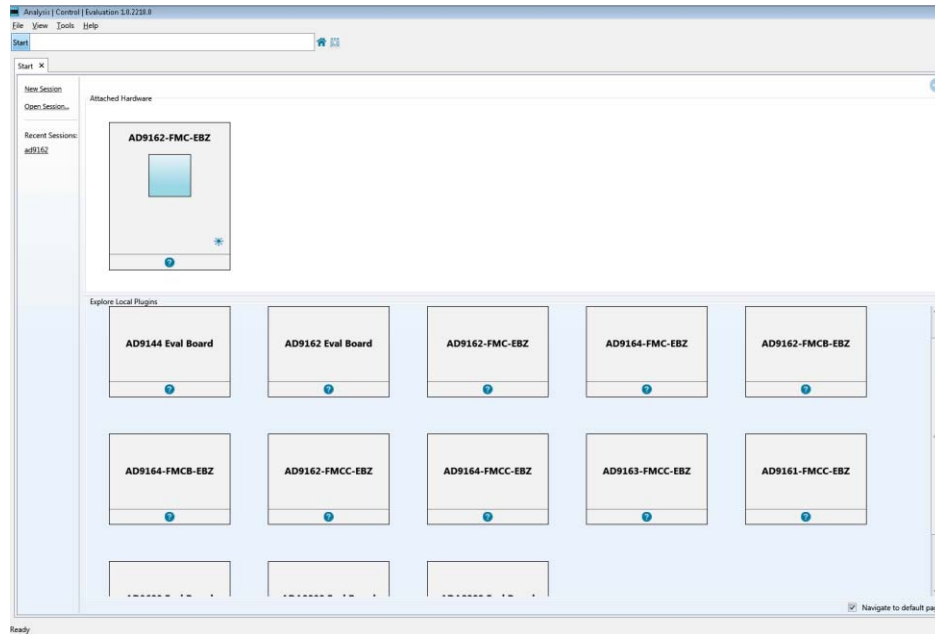

Figure 13. The entry screen of the ACE SPI programmer software
1. Open the ACE software, which is located in Start->Programs->Analog Devices->ACE->ACE. The screen will appear similar to Figure 13 as below. ACE is the software that is used to load the registers in the AD9162. The ACE software enables full access to the AD9162 register map, and also has several views and features that simplify its use. Many of the ACE software features will be covered in the ACE Software User's Guide. This section will focus on what is necessary to start-up the AD9162 in JESD mode.